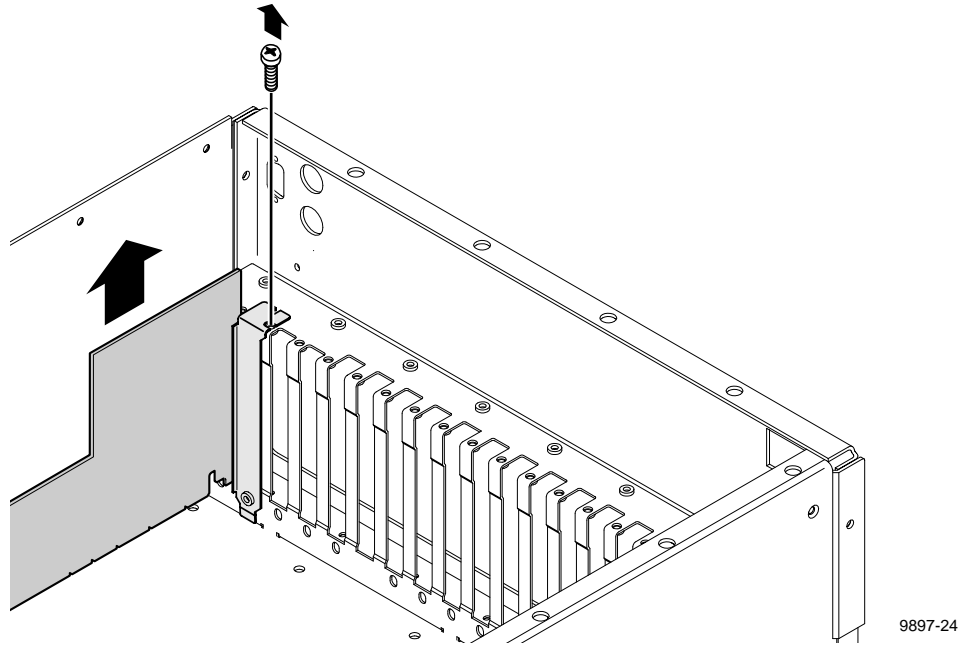

Figure 11. Location of circuit board mounting screw
- b. The VGA-I/O board is located in slot J2. Remove the circuit board mounting screw as shown in Figure 11.